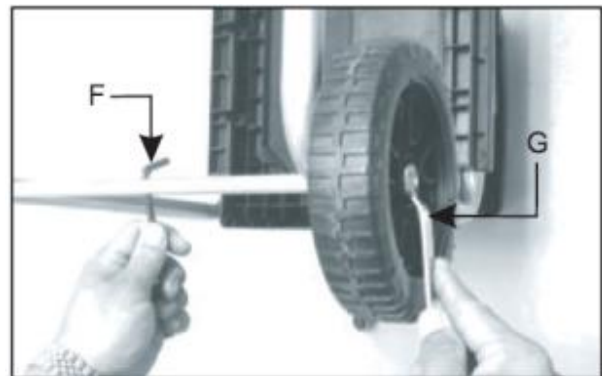

Fig.1D
- Using the supplied wrench (F) to fix the wheel axle and at the same time firmly lock the nut by using the wrench (G). (Fig.1D)